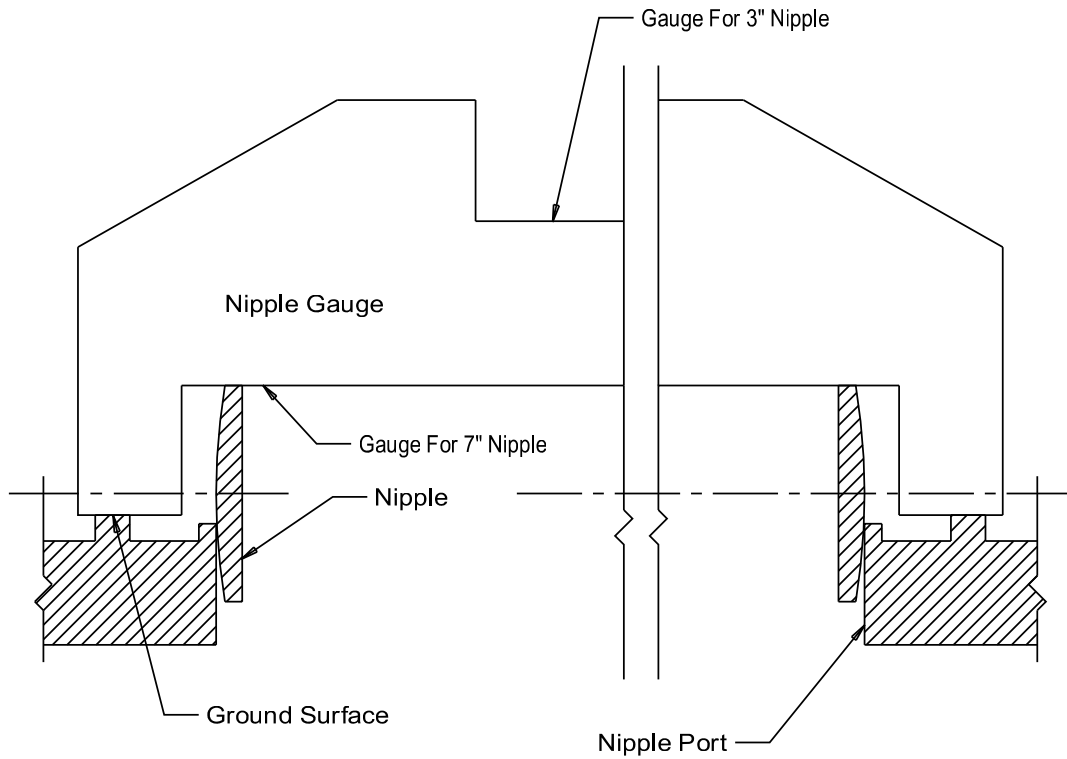

Figure 5: Use Of Nipple Gauge
- 5) Start each nipple by hand in the nipple port and bump carefully with a wooden block to set. As this is done, check the nipple frequently with the nipple gauge to verify that the nipple is square in the port and not cocked (see Figure 5). Continue to bump the nipple until the nipple gauge just touches the ground surface as measured in two directions 90 degrees apart.